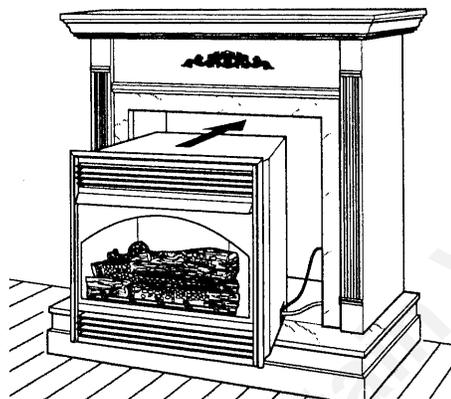

Figure 24 - Inserting Fireplace Into Cabinet Mantel
- Carefully insert fireplace into cabinet mantel (see Figure 24, page 13). Be careful not to scratch or damage hearth base, cabinet mantel, or any laminate trim on hearth base. Remove protective material from top of hearth base and from front of fireplace (if any). *Note:* You can secure fireplace to hearth or floor. Open lower louver. Locate screw holes in bottom of base. Tighten wood screws through these holes and into hearth or floor.